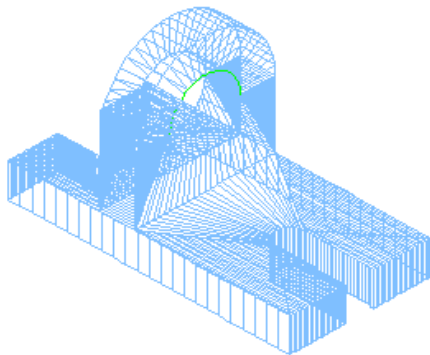

Figure Step 24
Step 24 Turn off all the layers except layer Surface and your model should appear as shown in Figure Step 24.